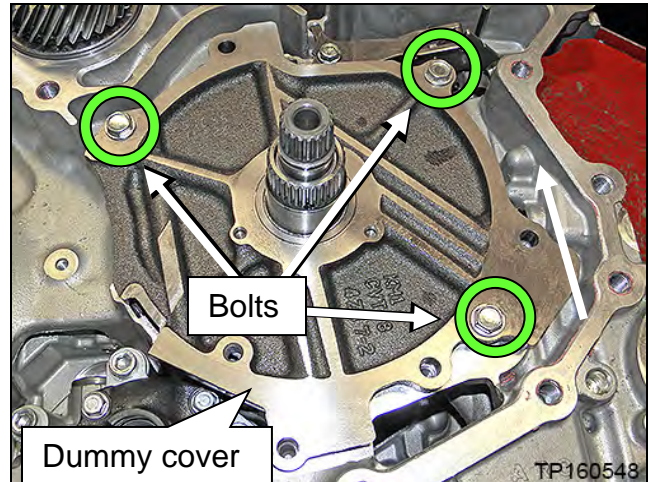

Figure 1F
1. Temporarily install the dummy cover with 3 bolts, finger tight (Figure 1F).